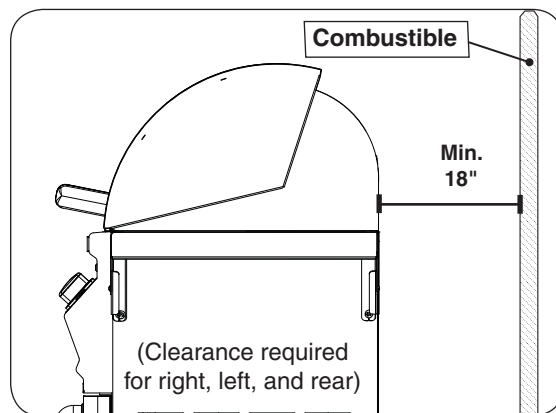

Fig. 10-1 Clearance 'A' Diagram
- The grill must have a minimum of 18" right, left, and rear clearance from any combustible wall (see Fig. 10-1).